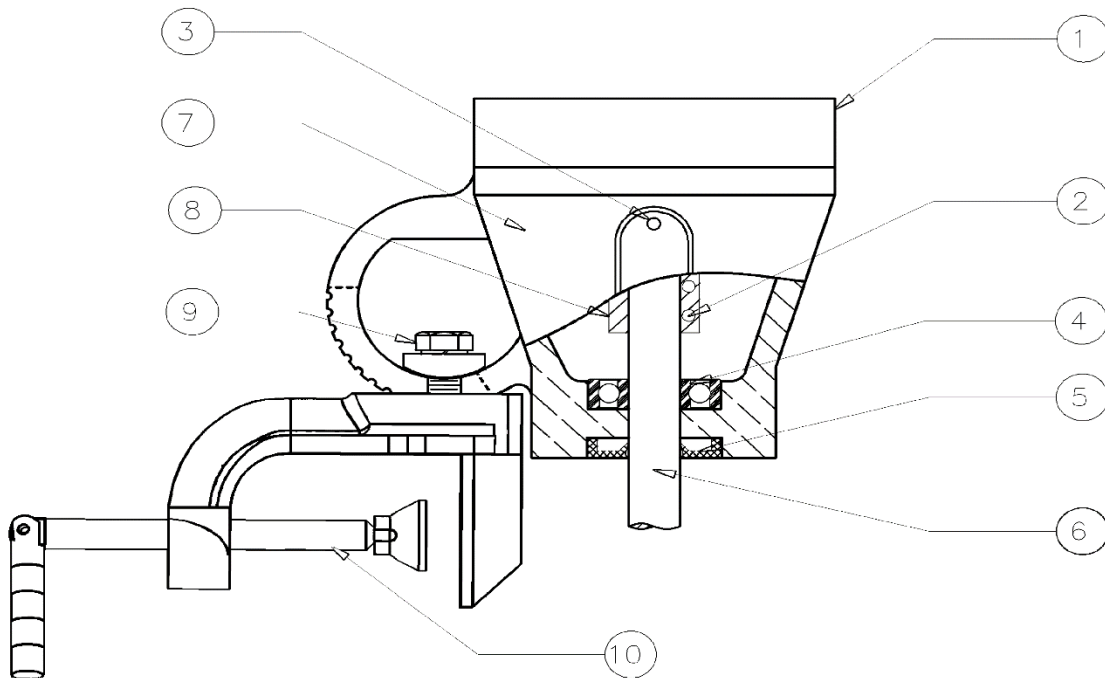

Figure 1
2. To adjust position of mixer, loosen the hex head bolt item 9 (Fig.1) in the clamp, position and tighten.